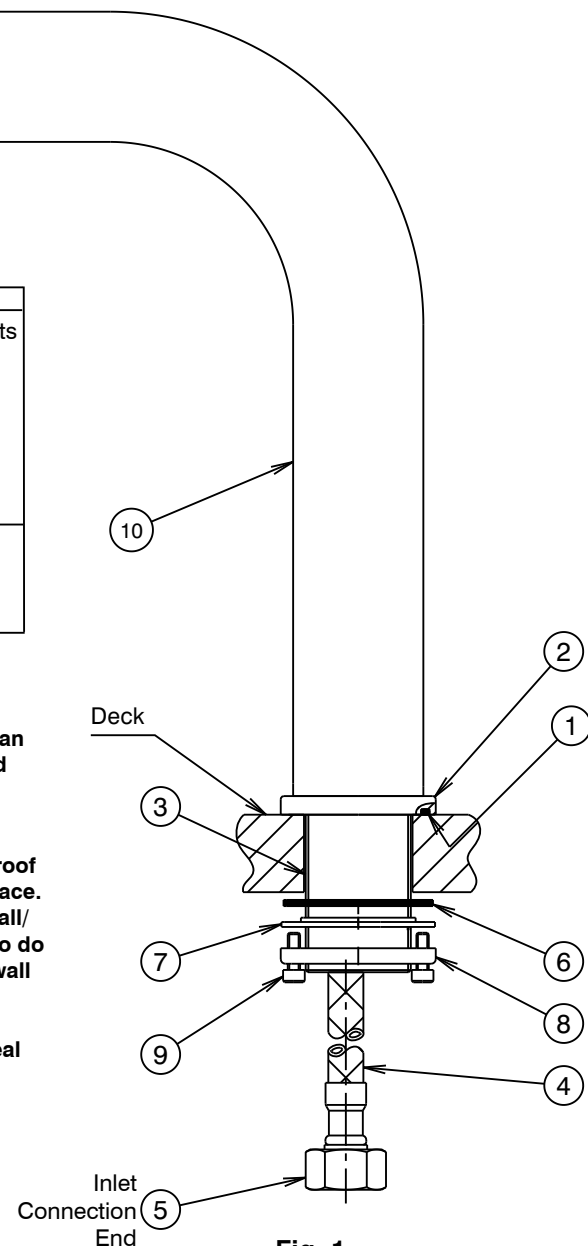

Fig. 1
- 1) From fixing pack fit 'O'ring (1) into groove in base ring (2). Slide the base ring over the threaded tube (3) & locate spigot of base ring (2) into base of bottle filler body (10), as shown.
- 2) Insert the inlet connection end (5) of flexible hose (4) through the hole in the deck. Fit bottle filler (10) into deck hole, fit washer (7) together with flat seal (6) over threaded tube (3) of bottle filler as shown (Fig.1). Screw clamp ring (8) onto threaded tube until it contacts washer (7) & the flat seal (6) has contacted the underside of the deck. Tighten two screws (9) using a 3mm allen key until mixer assembly is clamped firmly to the deck.
- 3) Connect the flexible hose (4) to the isolating stop tap hand tighten the fixing nut (5) until rubber cone contacts the sealing face of the connection end, then tighten a further one turn to provide a watertight joint.